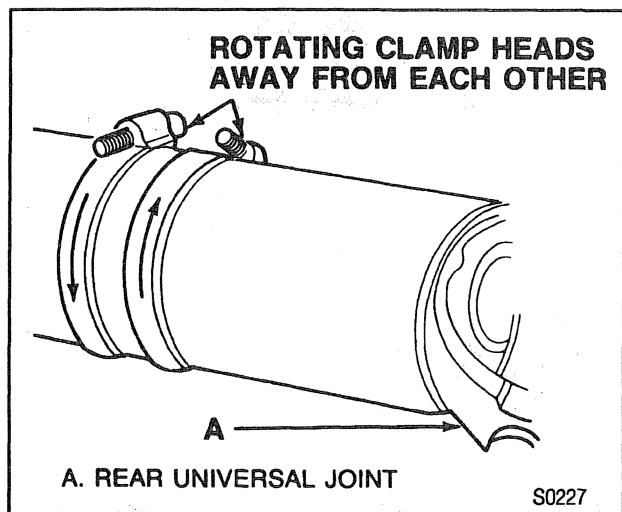

Figure 18—Rotating Hose Clamps
7. Position clamps at point of least imbalance. Rotate the clamp heads away from each other 45 degrees (one on each side of the position) (figure 18). Run the vehicle and note if balance has improved. In some cases it may be necessary to use one clamp or possibly three clamps in order to obtain a good balance. Replace the propeller shaft if three hose clamps do not improve the balance.